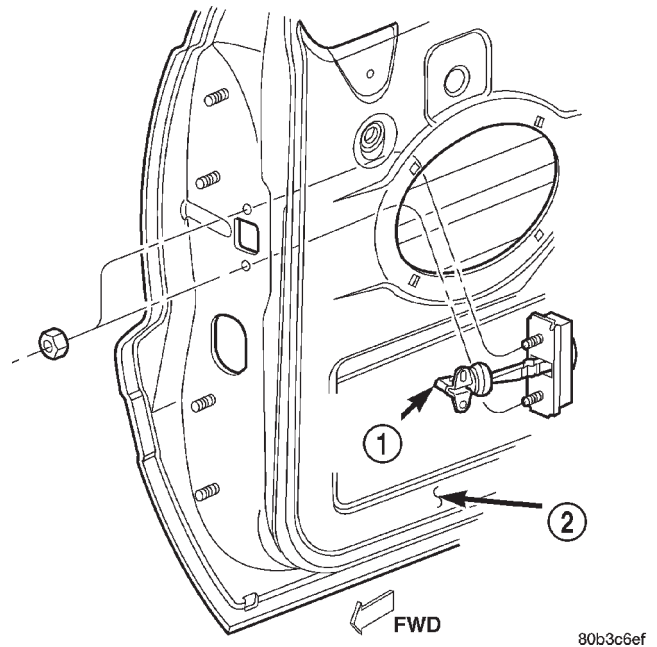

Fig. 7 Front Door Check
- (1) Open and support door.
- (2) Using a wax pencil, or other suitable device, reference mark the hinge placement
- (3) Disconnect the door wire harness.
- (4) Remove the door check from the "A" pillar (Fig. 7).